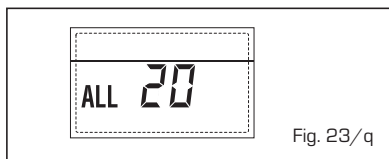

Fig. 23/q
**- SOLAR COLLECTOR SENSOR ERROR (S1) "ALL 24" (fig. 23/18)**